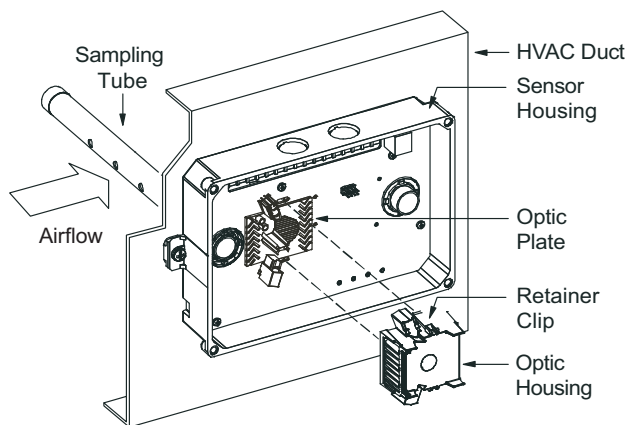

Fig. 43 — Sensor Cleaning Diagram
1. Disconnect power from the duct detector then remove the sensor's cover. See Fig. 43.